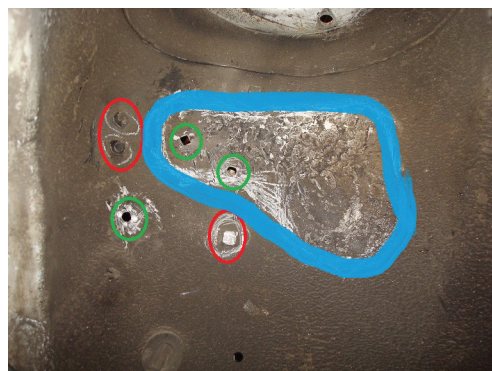

fig. C.7
2. To gain full use of the camber plates, some inner fender modifications should be done to insure clearance around the new air spring assembly (Fig. C.7). All bolts should be trimmed flush with the mounting nuts. All unused nuts should be removed. Some vehicles may require some modification to form the sheet metal away from the air spring (2005 STi left inner fender shown: RED=trim, GREEN=remove, BLUE=form).